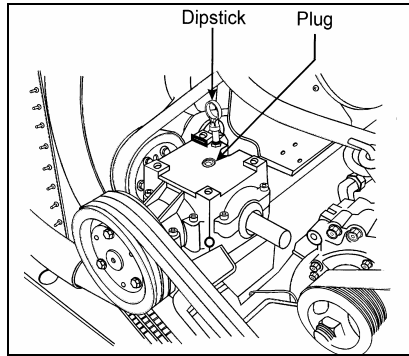

FIGURE 1 : FAN DRIVE GEARBOX
1. Drain the gearbox (figure 1) following the procedure described in section 5 of your Maintenance Manual (see "Fan Gearbox").